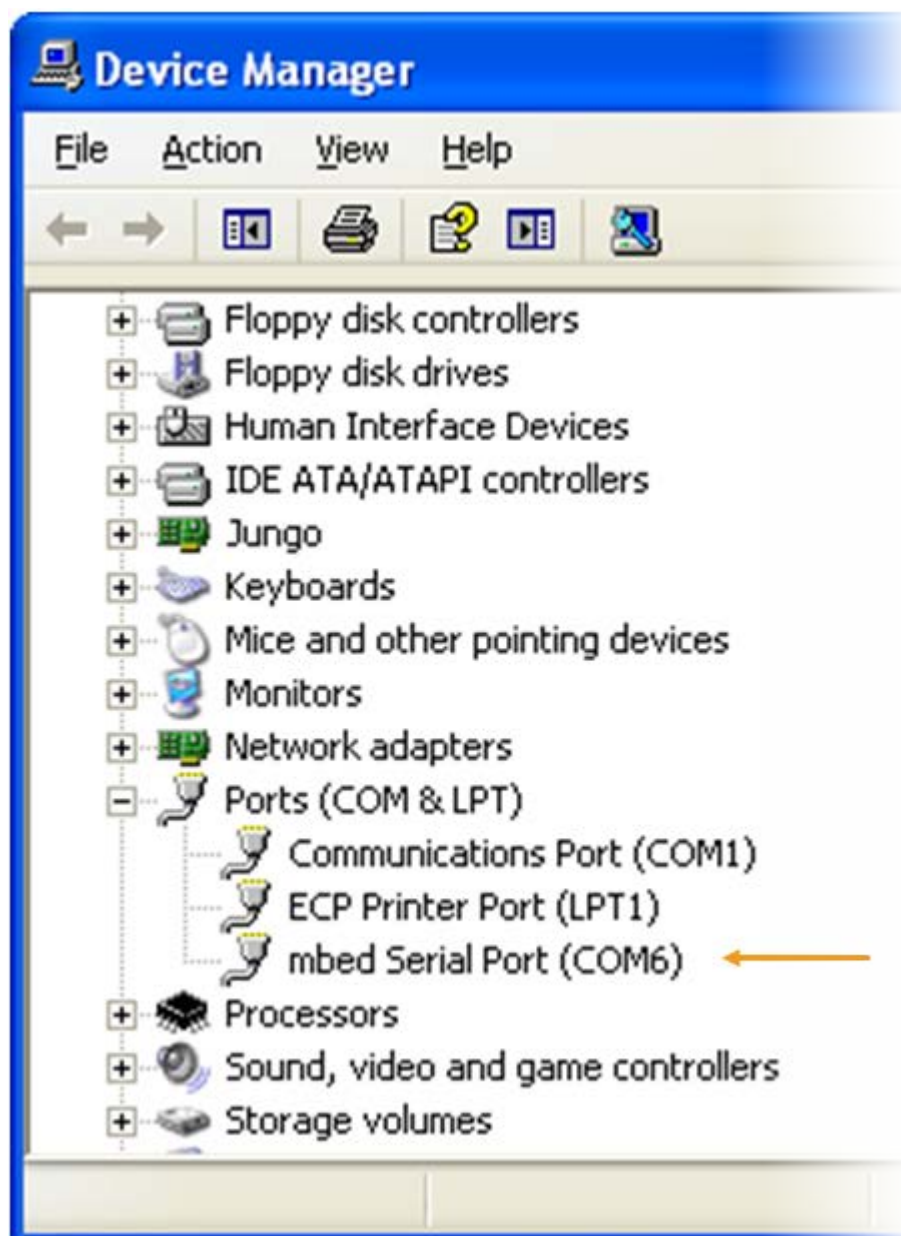

Figure 2. COM port associated with the LinkIt 7687 HDK
- 3) In **Device Manager**, navigate to **Ports (COM & LPT)** (see Figure 2).
- 4) A new **COM** device should appear under **Ports (COM & LPT)** in **Device Manager**, as shown in Figure 2.